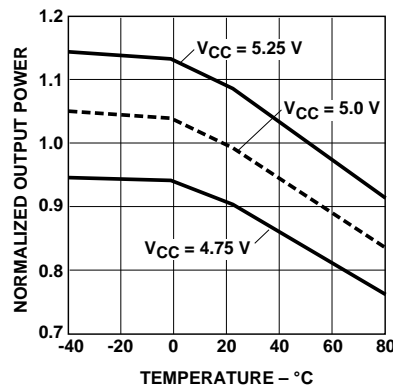

Figure 4. Typical normalized optical power vs. temperature (in recommended drive circuit).
3. Minimum and maximum values for P_T over temperature are based on a fixed drive current. The recommended drive circuit has temperature compensation which reduces the variation in P_T over temperature; refer to Figures 4 and 6.